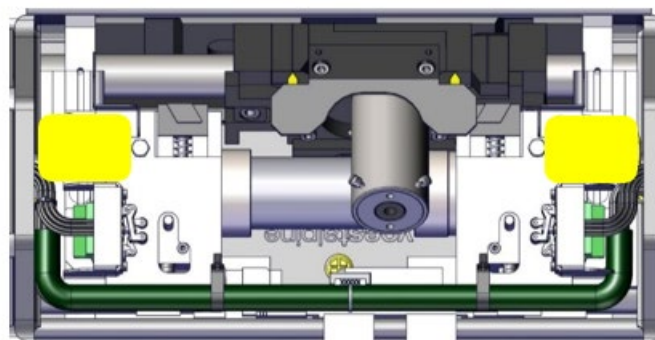

Figure 9 - Position of Drying Bags in DLD (shown in yellow)
6.12 Install new drying bags and close the main lid and refit padlock. Position drying bags as shown in Figure 9.